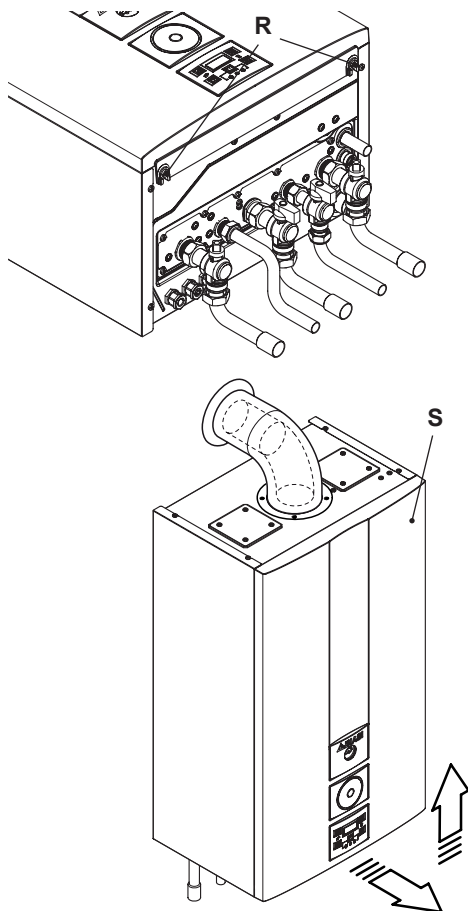

Fig. 6.15
- Unscrew screws "R" and remove the front panel "S" by pulling it and pushing it towards the top so that it is freed from the top housing Fig. 6.15.